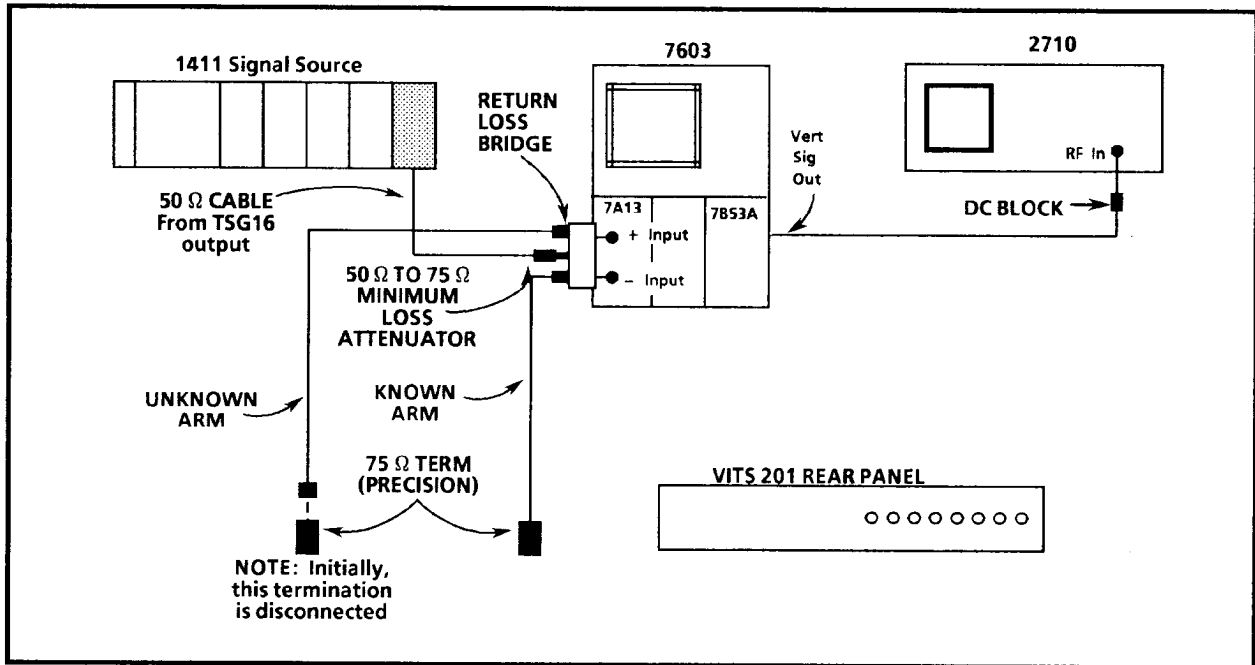

Figure 6-2. Setup to check Return Loss.
- a. Connect the equipment as shown in Figure 6-2. Make sure to tighten all connections.